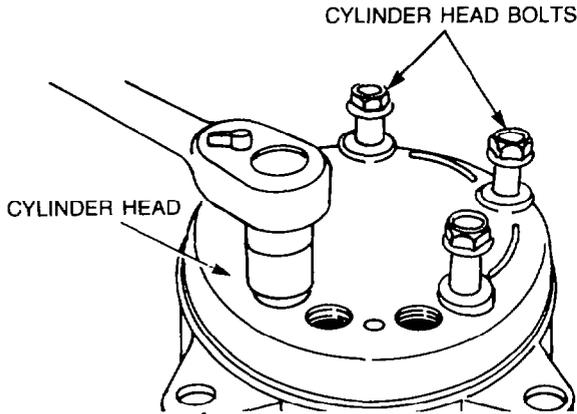

Figure 30 — Cylinder Head — Removal
- n. Remove the five cylinder head bolts, then remove the cylinder head (see Fig. 30), it may be necessary to lightly tap the cylinder head with a soft faced hammer to assist in removal.